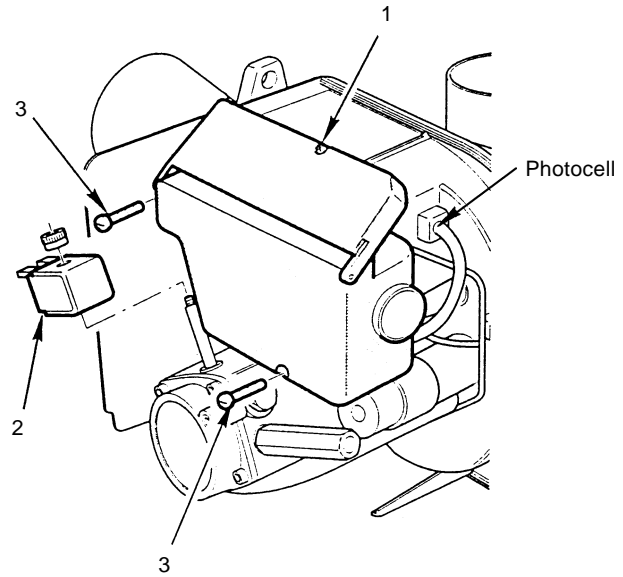

Fig. 36
- Photocell** - The photocell is a push-fit in the burner body, see Fig. 36. Carefully pull out the photocell to clean.
- Control box (see Fig. 36)** - With the plastic burner cover removed, loosen the screw (1) securing the cover. Open the cover and remove all components. Remove the oil pump solenoid (2) and loosen the two screws (3). Move the control box slightly and disconnect the high voltage leads.